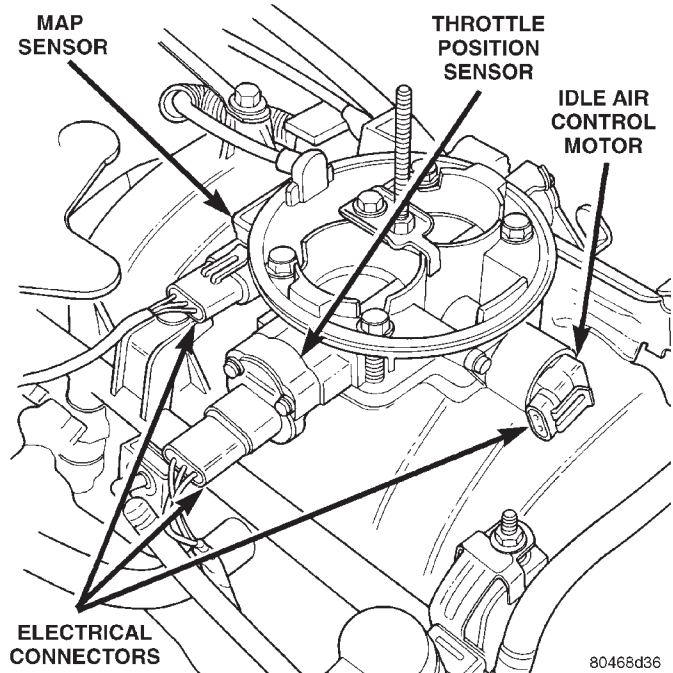
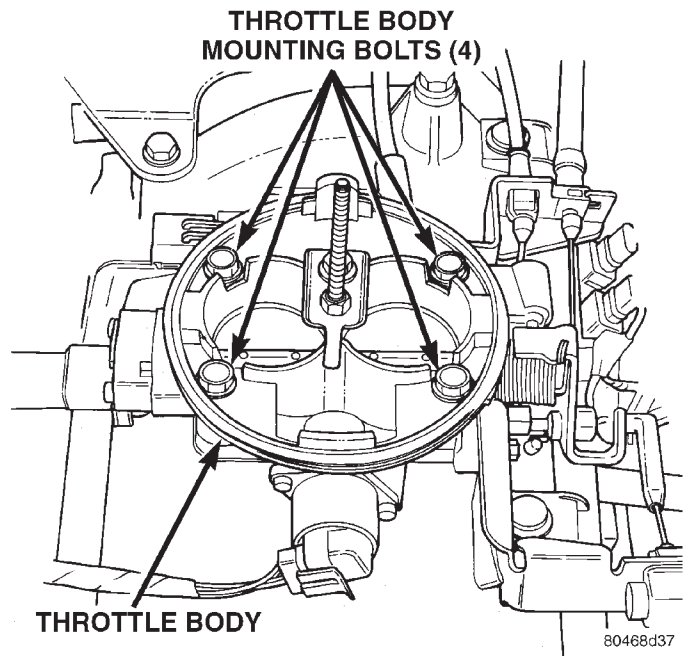

Fig. 62 Sensor Electrical Connectors—5.2L Engine—Typical
Fig. 63 Throttle Body Mounting Bolts—5.2L Engine—Typical
- (1) Remove the air duct at throttle body.
- (2) Disconnect throttle body electrical connectors at MAP sensor, IAC motor and TPS (Fig. 62).
- (3) Remove vacuum line at throttle body.
- (4) Remove all control cables from throttle body (lever) arm. Refer to the Accelerator Pedal and Throttle Cable section of this group for additional information.
- (5) Remove four throttle body mounting bolts (Fig. 63).
- (6) Remove throttle body from intake manifold.
- (7) Discard old throttle body-to-intake manifold gasket.